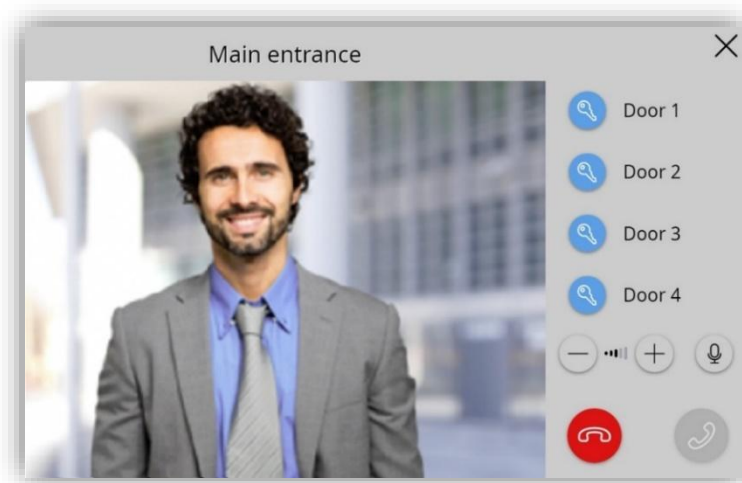

Figure 138. Ongoing call
- **Accept Call:** opens the ongoing call dialog (Figure 138) and notifies others synchronized screens in the same network that the call has been accepted:
When accepting the incoming call, the interface in Figure 138 is shown and starts the voice communication with the video intercom.